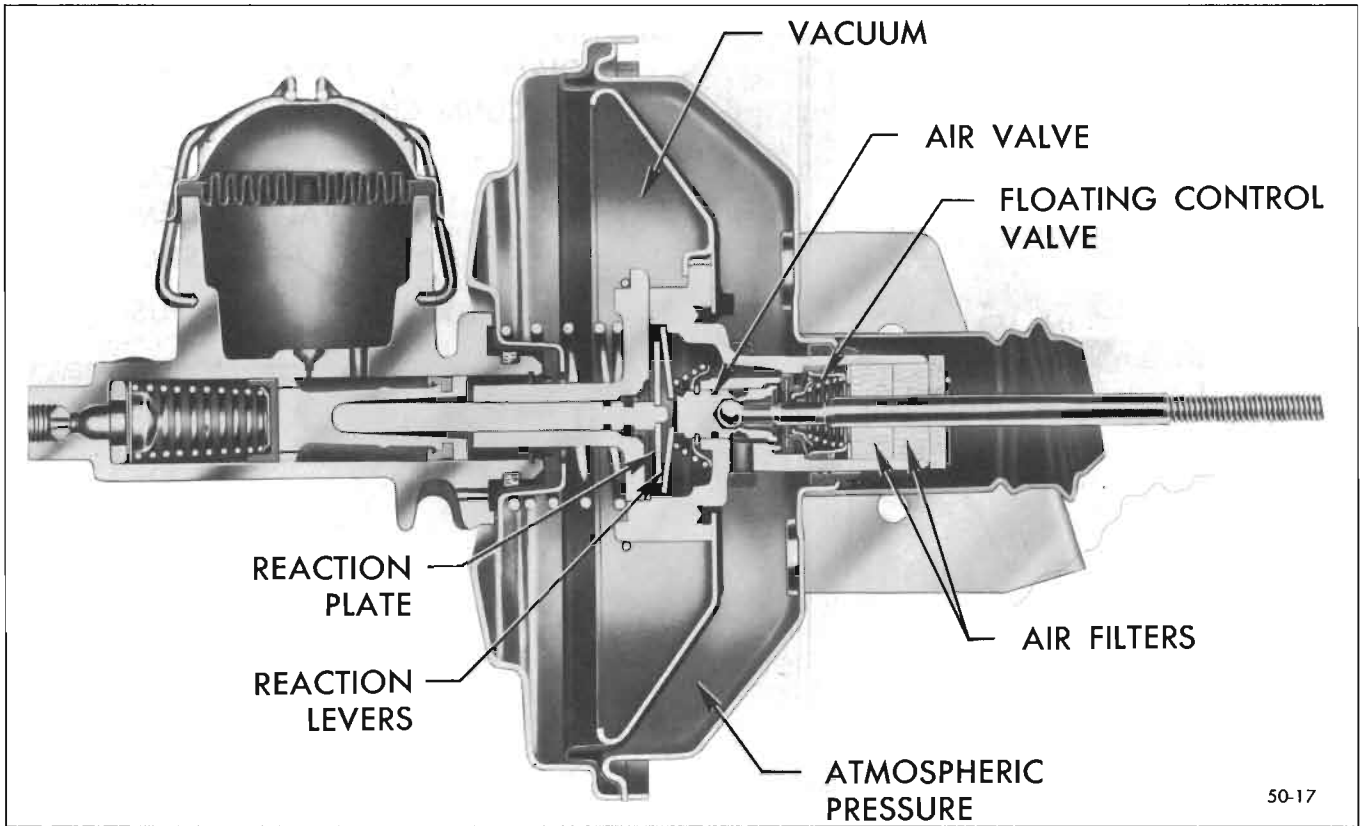

Figure 50-17—Power Brake Unit - Applying Position
2. Applying Position. As the pedal is depressed, the push rod carries the air valve away from the floating control valve. See Figure 50-17. The floating control valve will follow until it is in contact with the raised seat in the power piston. When this occurs, the vacuum is shut off to the rear side of the power piston and air under atmospheric pressure rushes through the air filter and travels past the seat of the air valve and through two passageways into the housing to the rear of the diaphragm.